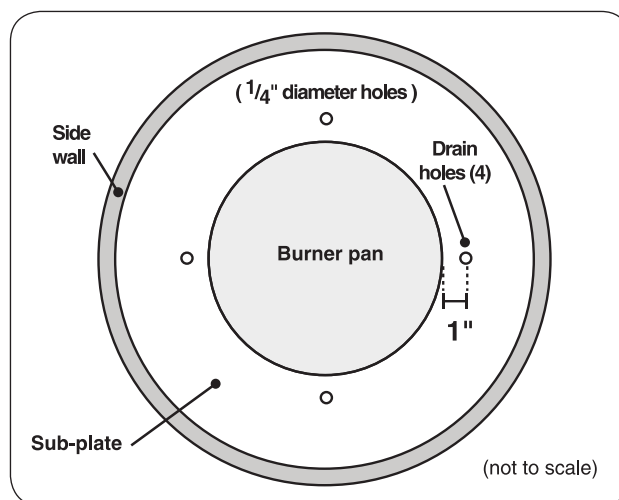
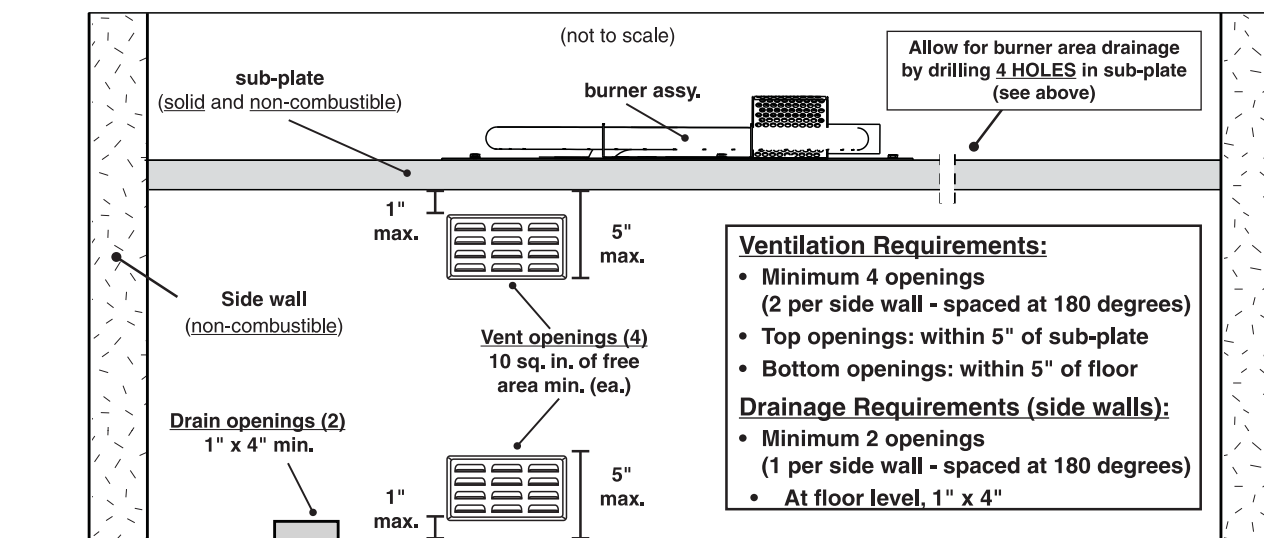

Fig. 12-1 Sub-plate drainage specifications (top view)
Fig. 12-2 Ventilation and drainage specifications (enclosure side view)
Four (minimum) ventilation openings **MUST** be created (reference Fig. 12-2):
Two additional openings (1" x 4") must be created at the floor level (and spaced at 180 degrees) to allow for water drainage. The openings must be equally sized and unobstructed. See Fig. 12-2.
- 4 holes, 90° around burner pan, at 1" from edge of pan (see Fig. 12-1 and Fig. 12-2)